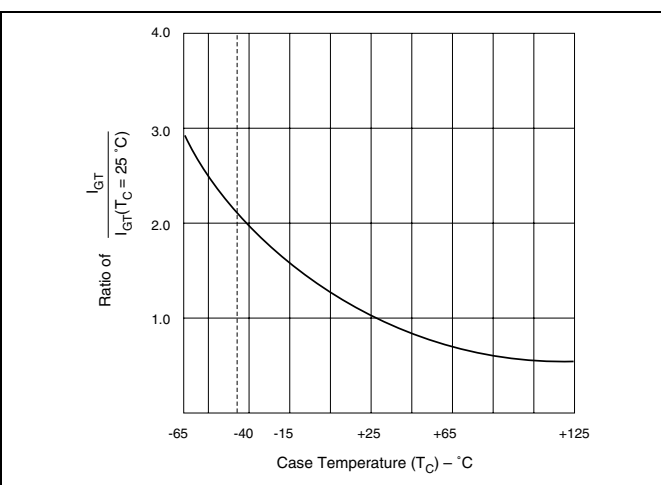

Figure E2.11 Normalized DC Gate Trigger Current for All Quadrants versus Case Temperature
- (7) See Figure E2.11 for  $I_{GT}$  versus  $T_C$ .